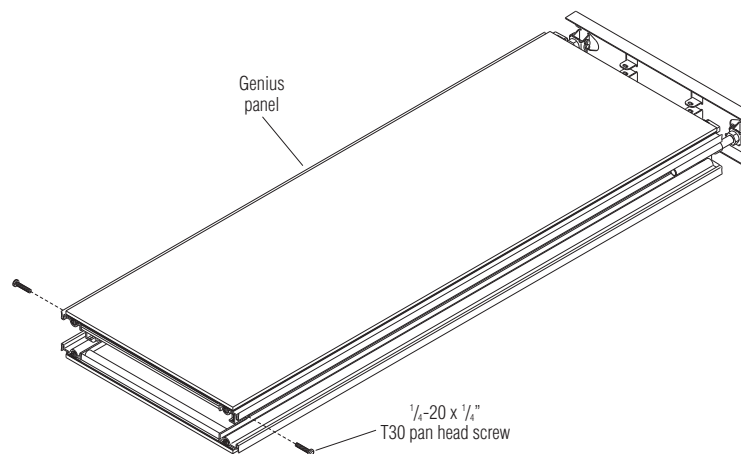

Figure 1
2. Carefully lay the panels flat onto the floor, and in the sequence as specified by the space-planning layout (Figure 1).
3. Remove the $\frac{1}{4}$ -20 x $\frac{1}{4}$ " T30 pan head screw from the top frame of the Genius panel. Set screws aside to be re-used (Figure 1).